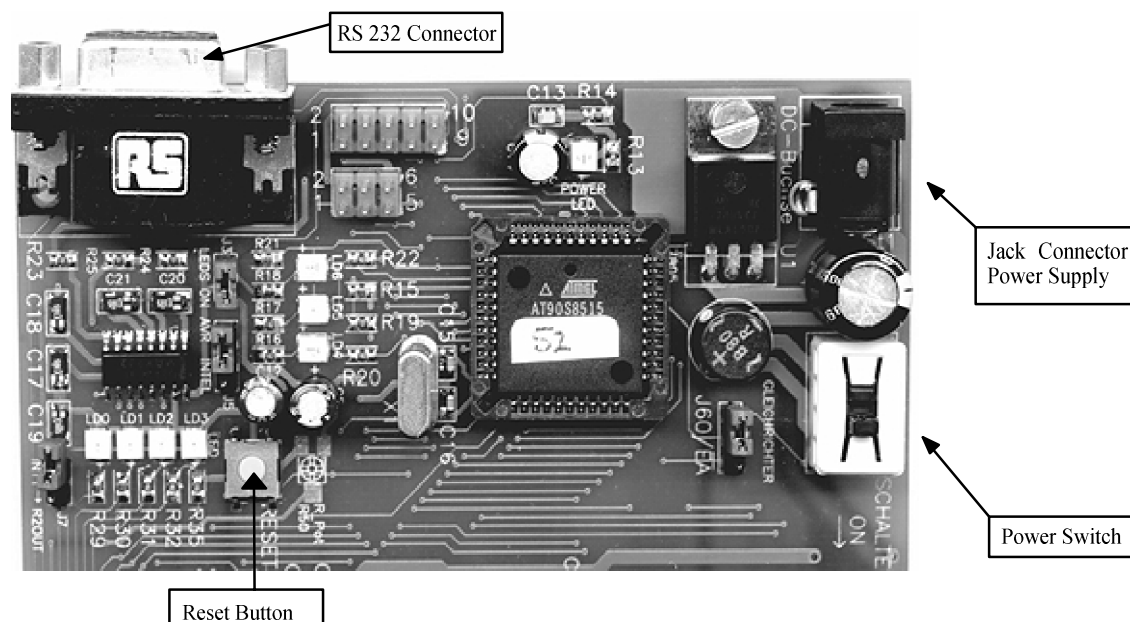

Figure 1. Main board
2.3 Hardware Settings and Connector Positions (Fig. 1, 2)